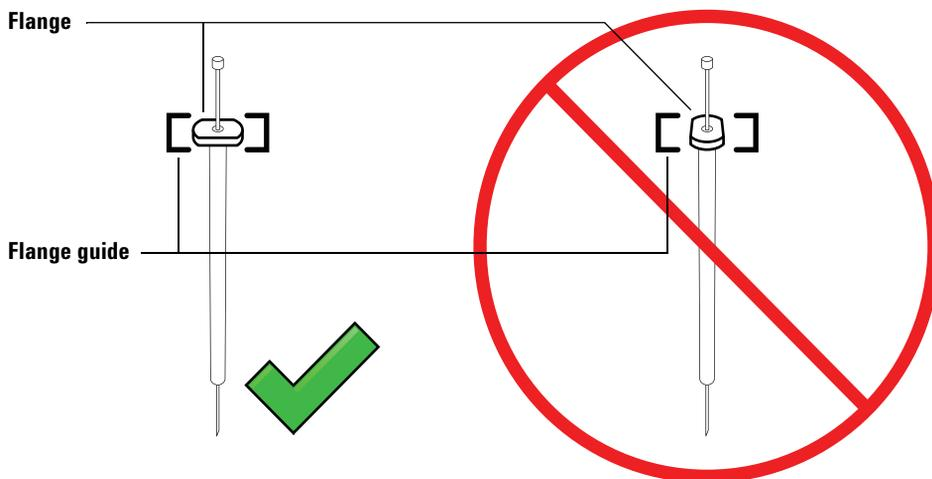

Figure 91 Syringe flange orientation
- 7 Align the syringe flange with the flange guide and press the syringe into place, keeping the needle end in the guide hole of the needle support foot. Make sure that the flat edge of the syringe flange faces out (Figure 91).